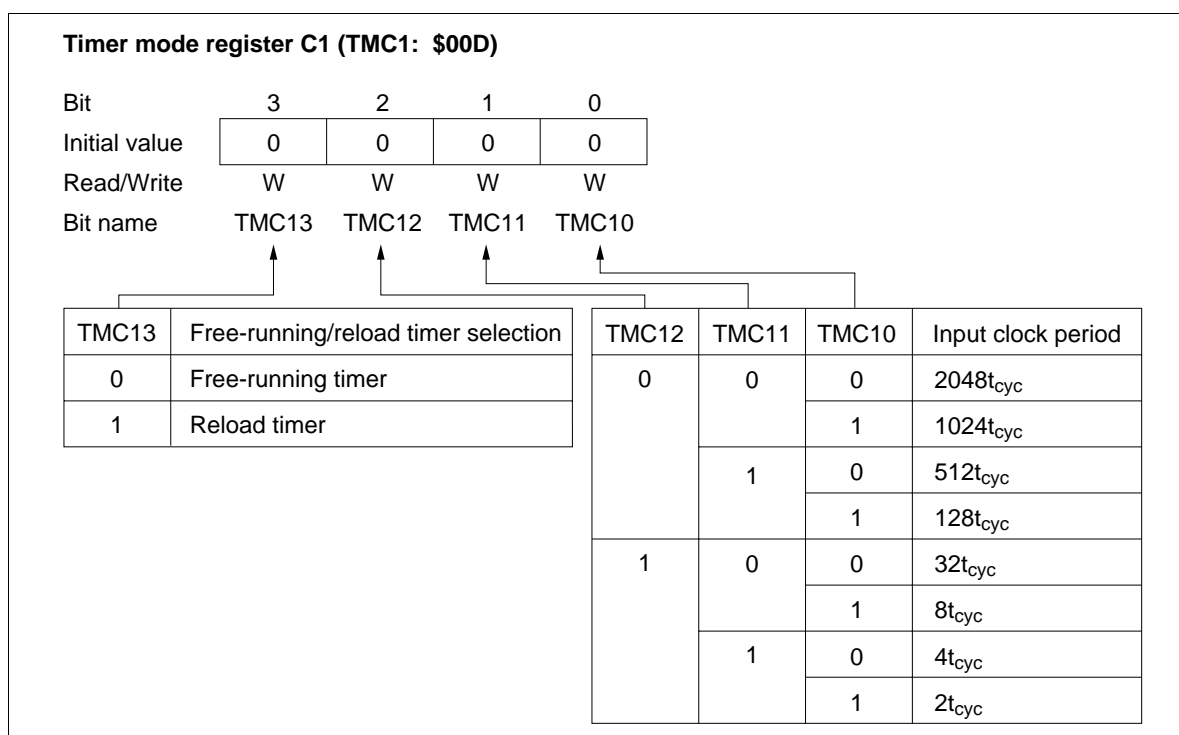

Figure 34 Timer Mode Register C1 (TMC1)
T: Input clock period to counter (figures 34 and 41)
- Timer mode register C1 (TMC1: \$00D): Four-bit write-only register that selects the free-running/reload timer function, input clock source, and the prescaler division ratio as shown in figure 34. It is reset to \$0 by MCU reset.